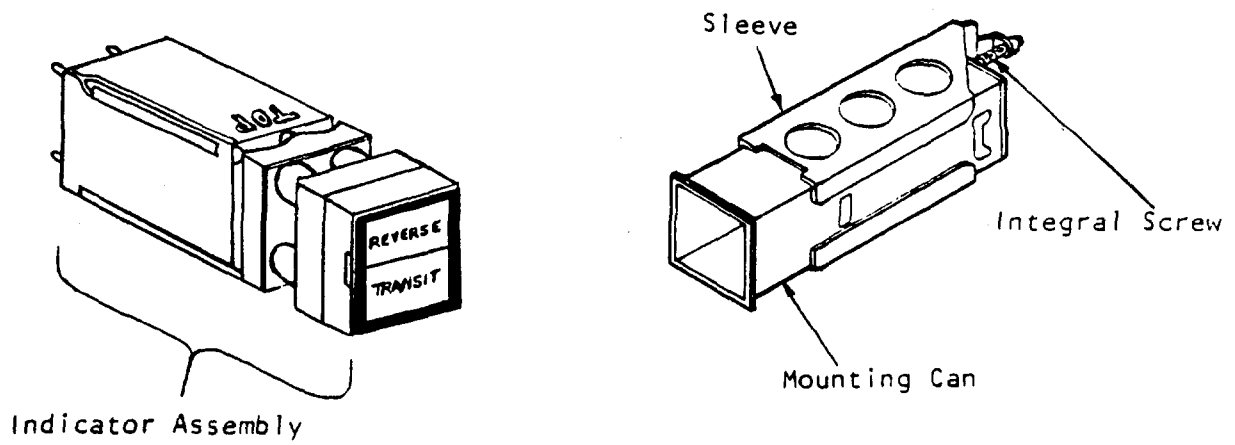

Figure 1 - Thrust Reverser Indicator and Mount Assembly
1. **Description.** The Thrust Reverser Indication System (see Figure 1) for the Falcon 20 installation, advises the cockpit crew with position/status of each reverser. This is accomplished by means of two press-to-test indicator lights for each reverser, mounted on the center instrument panel (see 78-30-00, Figure 2). The amber "Transit" light should illuminate anytime the reverser is in any position other than fully stowed or deployed. In some cases the "Transit" light may flash with the reverser fully stowed or deployed, indicating a system fault which will be discussed in Paragraph 2 below. The green "Reverse" light should illuminate anytime the reverser is fully deployed. The indication system uses 28-volt DC power supplied by the aircraft non-shed bus which also supplies power for reverser control circuits. On some Falcon 20 aircraft the indication system described above has been incorporated into the aircraft Master Warning Panel. In these cases refer to the applicable chapter of the aircraft maintenance and/or wiring manuals for description and wiring data respectively.
A. Indicator (See Figure 1).
(1) Removal.